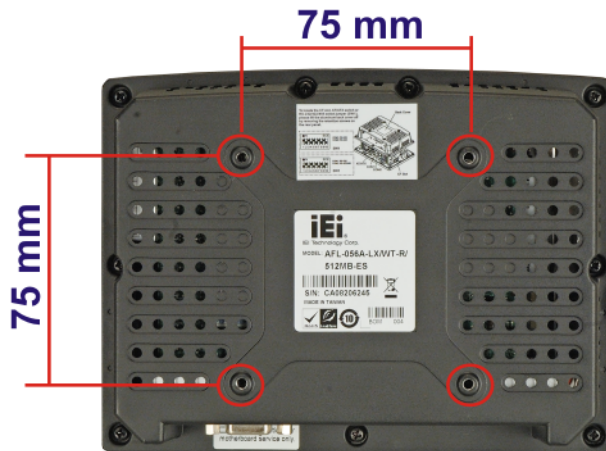

Figure 3-9: Arm/Stand Mounting Retention Screw Holes
Step 3: Align the retention screw holes on the mounting arm interface with those in the flat panel PC. The arm mount retention screw holes are shown in **Figure 3-9**.